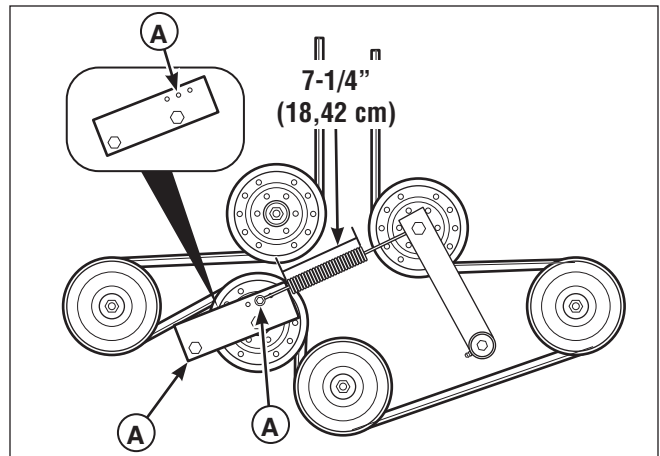

Figure 44. Check the Mower Belt Tensioner Spring Length
With the spring anchor (A, Figure 44) adjusted in the second hole (B) of the spring bracket (C) the coil-to-coil spring length should measure 7-1/4" (18,42 cm).